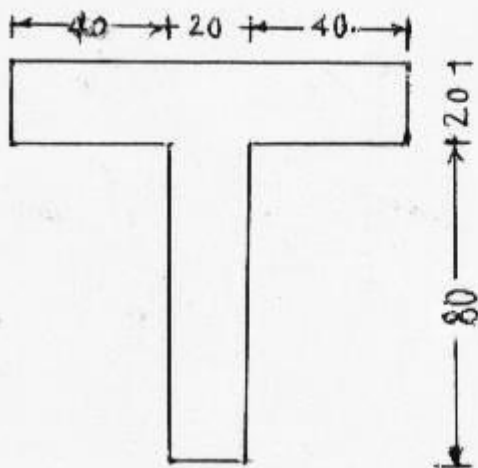
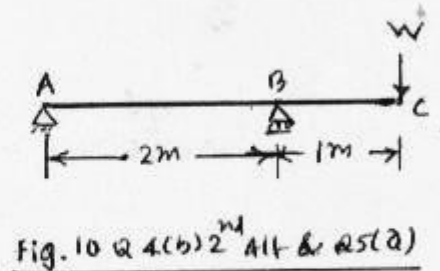

fig.5 Q4 (b) 2nd Alt. & Q5 (a)
Fig.10 Q 4(b) 2nd Alt & Q5(a)
- (b) A cast iron beam of T section (as per **fig. 5**), is loaded as shown **07**
in **fig. 10**. If the tensile and compressive permissible stresses are 40MPa and 70MPa respectively, find the safe point load W. Neglect self weight of the beam.
- (a) For a beam shown in **fig.10**, is subjected to a point load W equal to 20kN, sketch shear stress distribution diagram at the section where shear force is the maximum. Consider cross section as T as shown in *fig. 5*